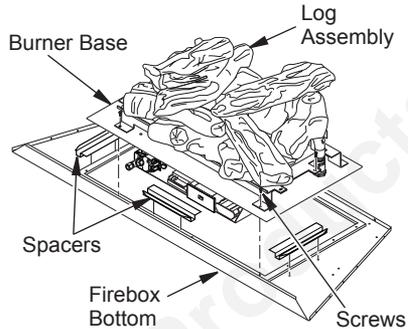

Figure 30 - Removing/Installing Burner Base
4. Remove 3 spacers from firebox bottom (see Figure 30).
6. Remove 9 screws from front and sides of firebox burner base. Lift entire base from unit by pulling forward to disengage from rear flange and then lifting up (see Figure 30).